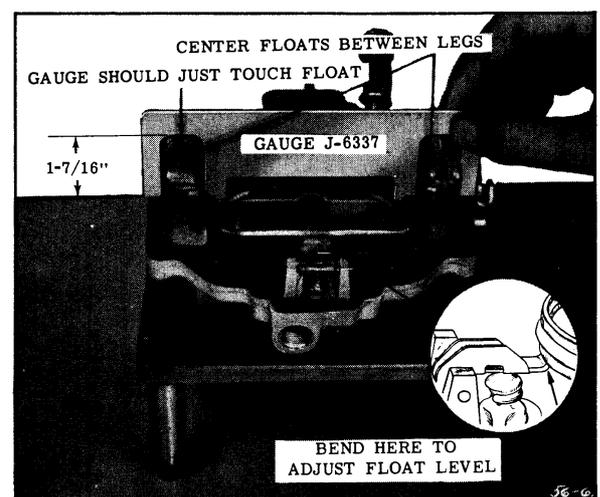

Fig. 8-135 Float Level Adjustment
1. Place gauge J-6337 so it rests over the floats and against the curvature of the air horn. (See Fig. 8-135)